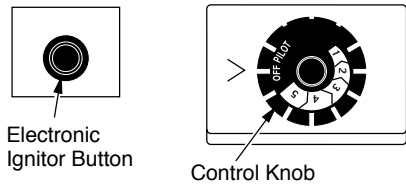

Figure 36 - Control Knob In The OFF Position
- Wait five (5) minutes to clear out any gas. Then smell for gas, including near the floor. If you smell gas, STOP! Follow "B" in the safety information above. If you don't smell gas, go to the next step.
- Turn control knob counterclockwise  to the PILOT position. Press in control knob for five (5) seconds (see Figure 36).
- With control knob pressed in, press and release ignitor button (see Figure 36). This will light pilot. The pilot is attached to the front burner. If needed, keep pressing ignitor button until pilot lights.